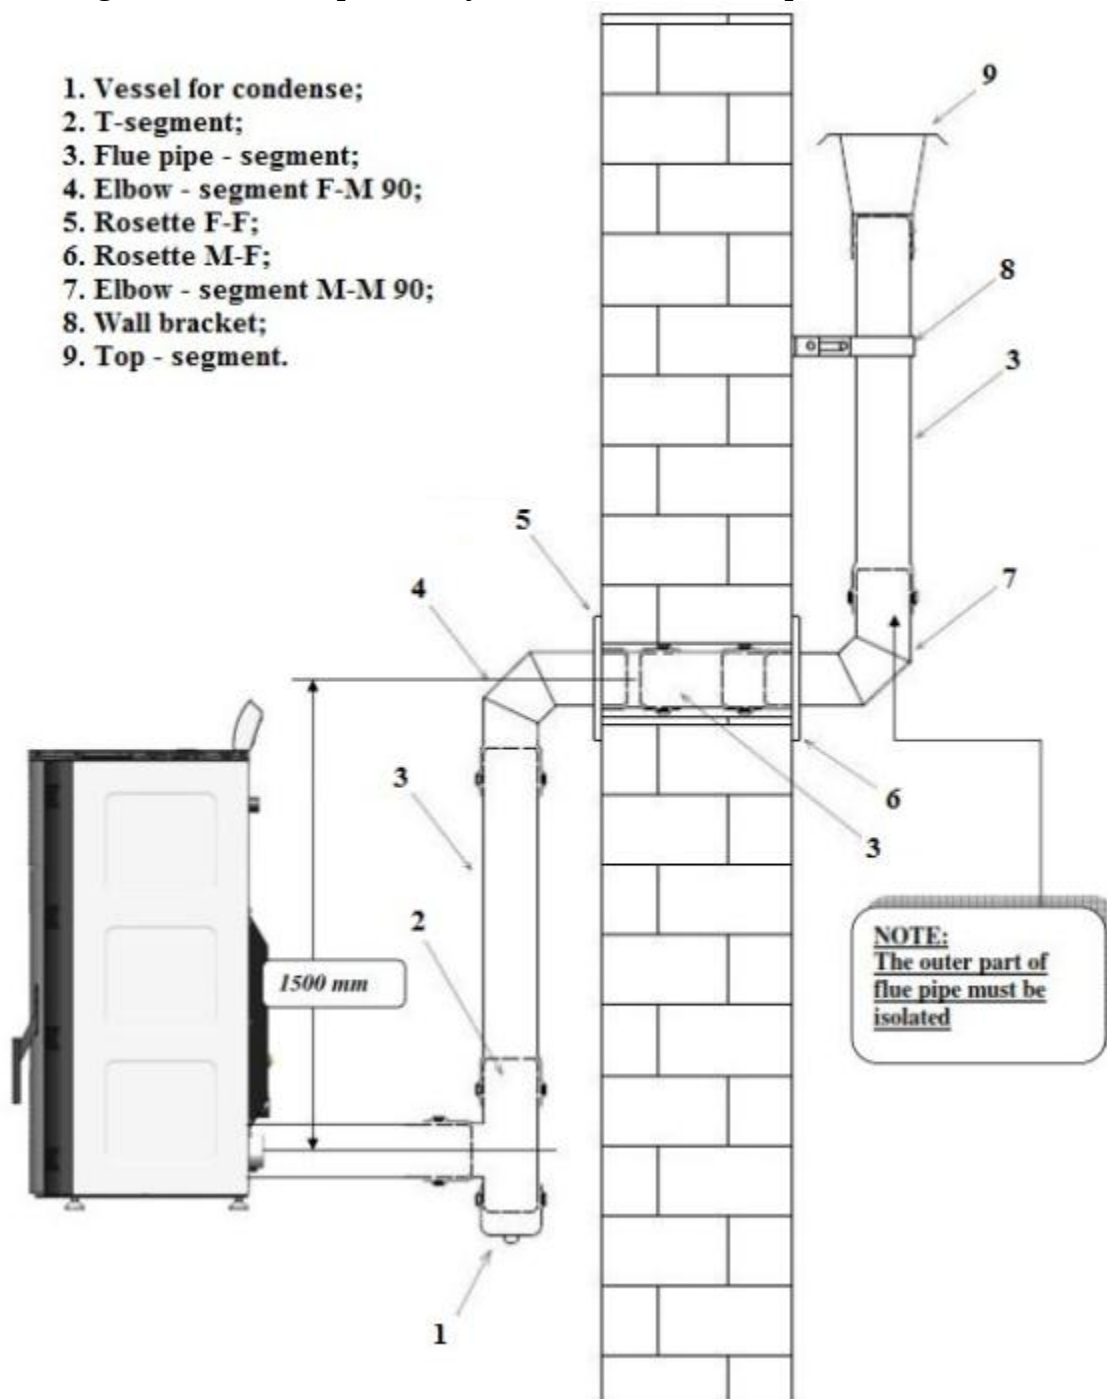
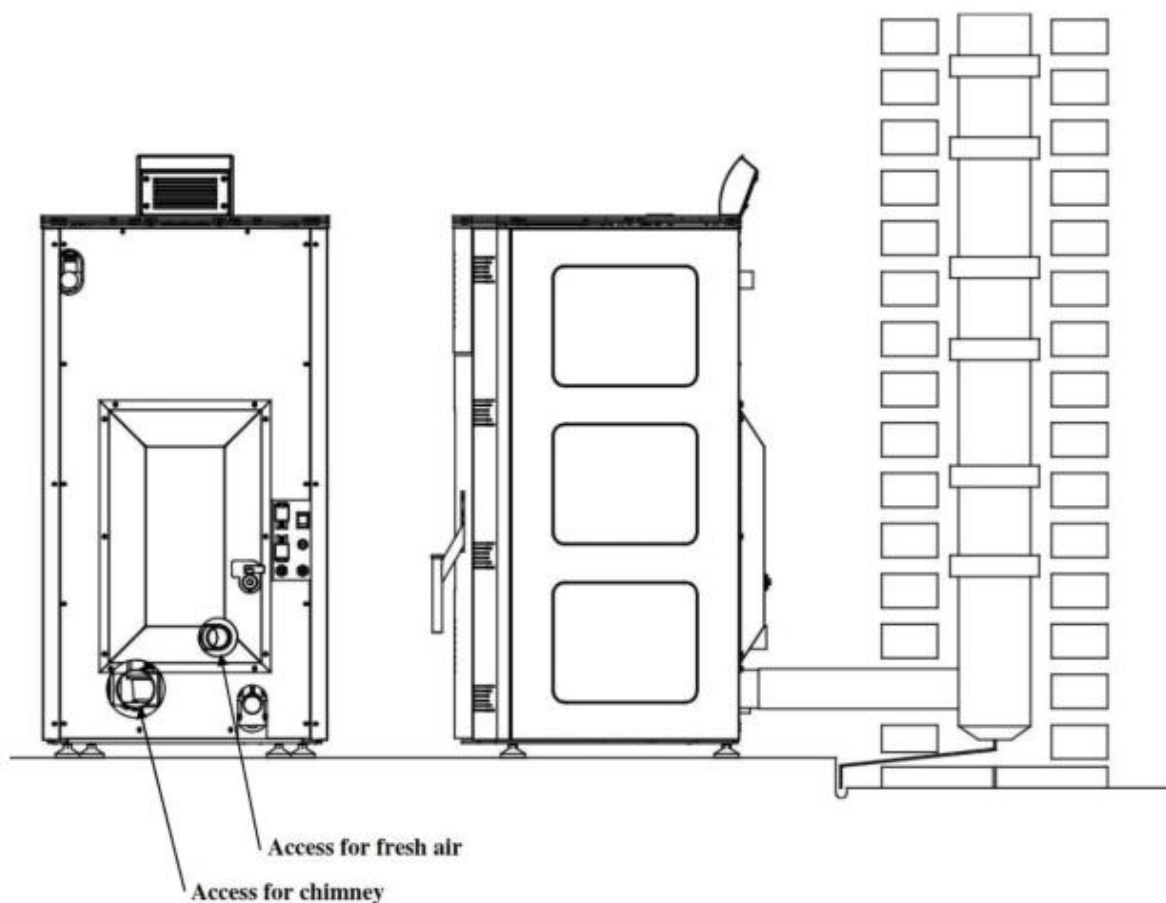

Figure 9. Installation of flue gas channels
Figure 10. Installation of flue gas channels and fresh air inlet for combustion
Installation of flue gas channels (Fig. 9) and fresh air inlet for combustion (Figure 10):
Connection onto Chimney (Figure 10)
- Chimney should come out above the roof according to the recommendations of the showed in image. (Figure 10)